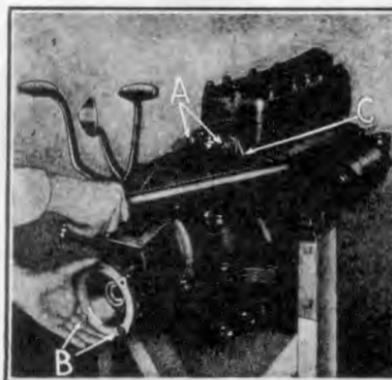
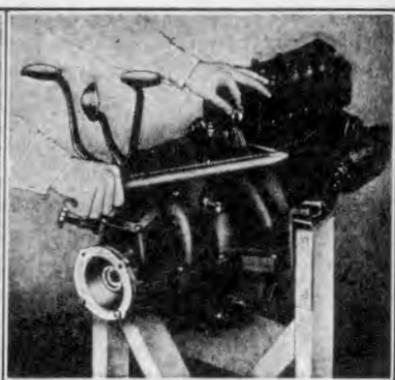

Fig. 553
Fig. 554
**1215** To insure these parts being in exact alignment the crankcase and transmission cover should be installed as described in Pars. 326 to 330 inclusive. The two transmission cover to cylinder bolts are then inserted into extensions on transmission cover and run down about half way into cylinder block (see "A" Fig. 553).
**1216** The fit of the ball cap on the drive plate shaft is then checked by loosening the two ball cap screws (see "B" Fig. 553) and moving the ball cap back and forth on the shaft. If the cap moves freely on the shaft, the alignment of the crankcase and cylinder block is OK and the two transmission covers to cylinder block bolts can be tightened. If ball cap does not move freely on drive plate shaft, insert a flat bar between cylinder block and transmission cover (see "C" Fig. 553) and slightly pry the transmission cover back until ball cap moves freely on shaft. This will leave a small gap between extensions on transmission cover and cylinder block. With the flat bar still in position, insert sufficient shims between cylinder block and transmission cover (see Fig. 554) to completely fill the gap between these parts. When sufficient shims have been installed, withdraw the flat bar and run down the two transmission cover to cylinder block bolts tightly (see "A" Fig. 553).